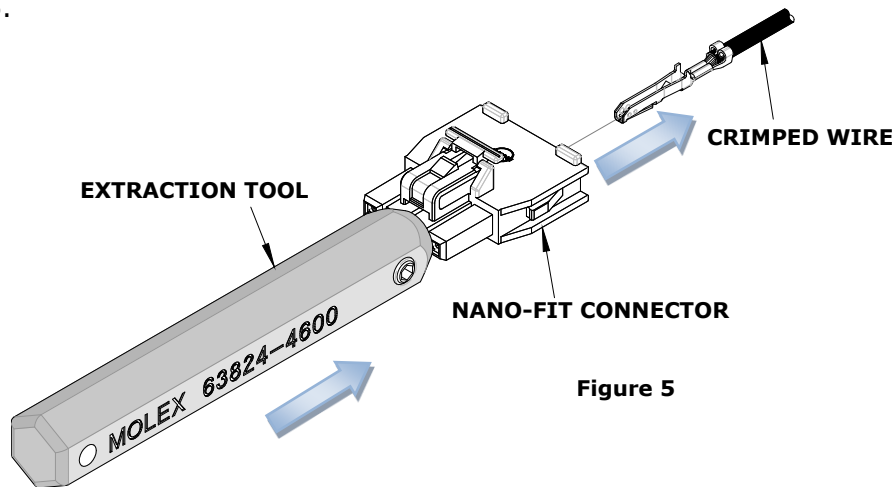

Figure 5
5. Holding the extraction tool against the housing, gently pull the crimped wire out of the connector. See Figure 5.
4. Holding the extraction tool against the housing and prying, gently pull the crimped wire out of the connector. See Figure 5.